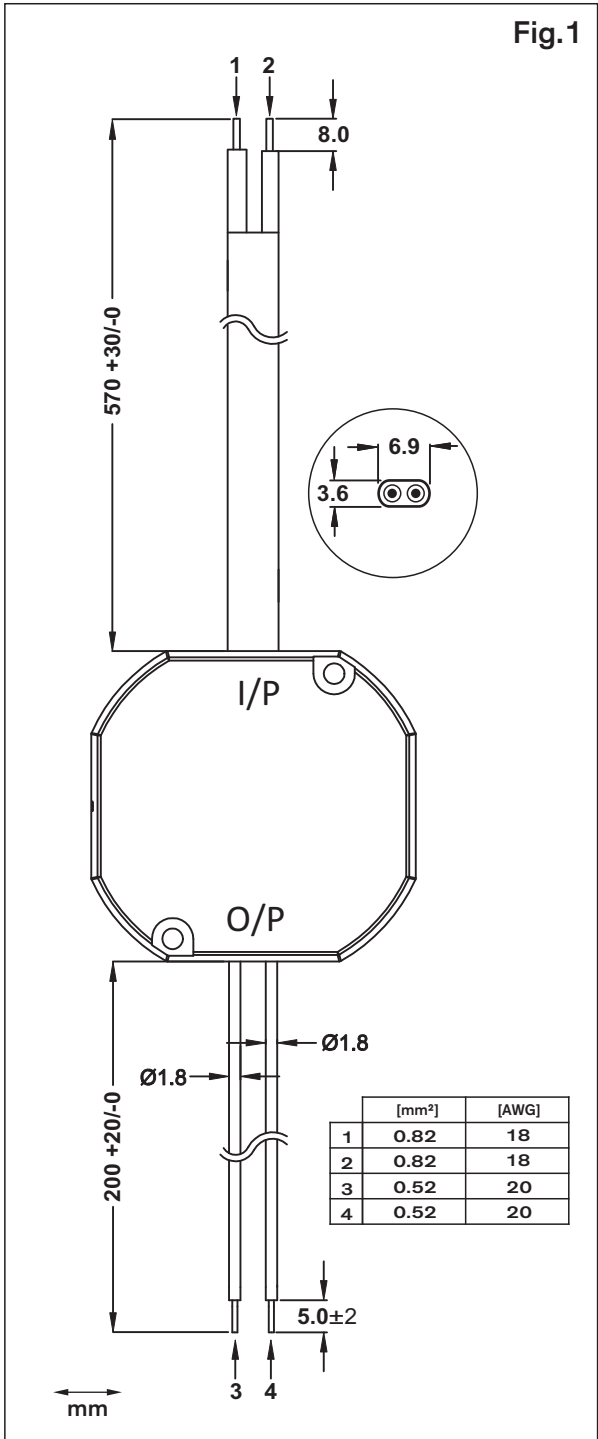

Fig.1
Описание компонентов Fig.1
- All input and output wires must be properly rated for the power supply and must be connected with the correct polarity. Fig.1